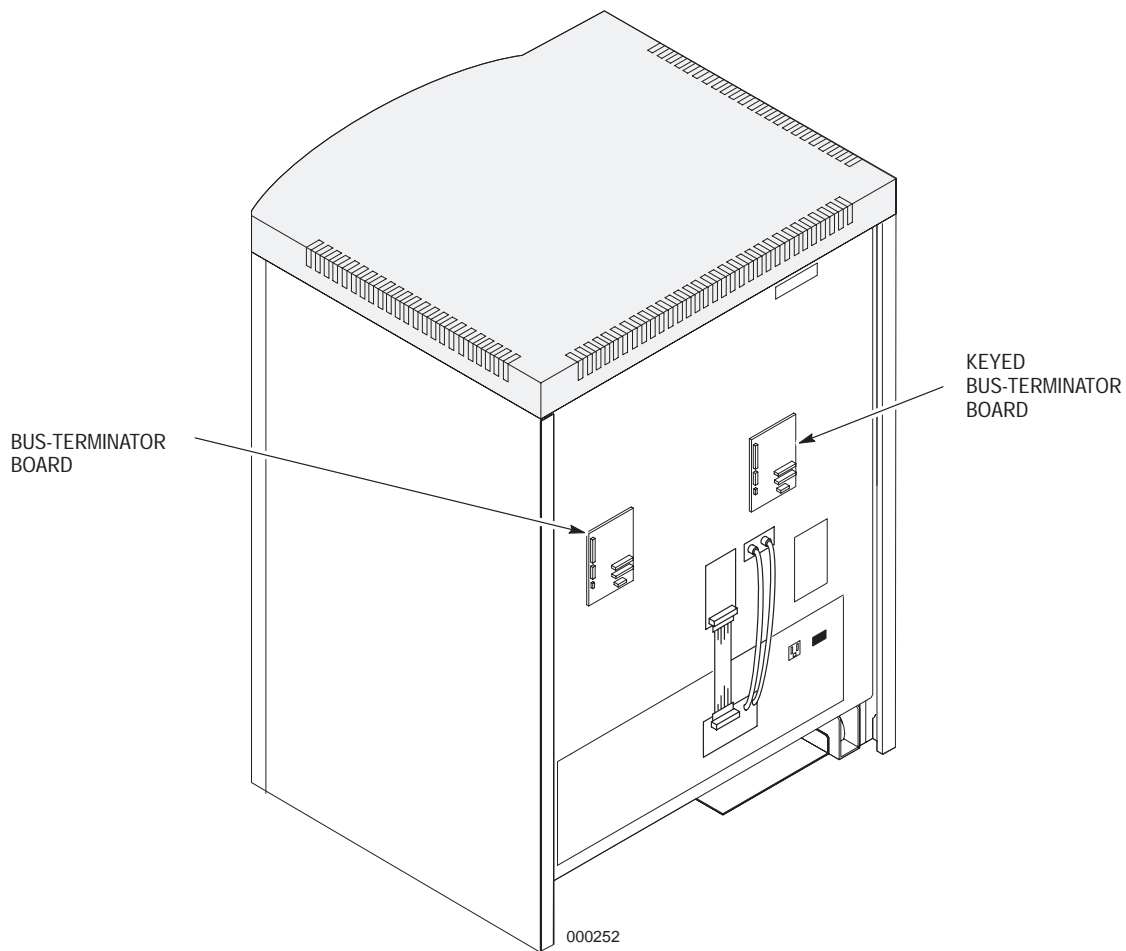

Figure 11-15. Bus-Terminator Boards (Rear View).
5. When the **ENTER BOOT COMMAND:** prompt appears, turn off the power to the server by switching the main-power circuit breaker on the back of the power-distribution tray to the OFF position (0).
8. Loosen the single, slotted, captive screw that secures the terminator board to the backplane. The locations of the terminator boards are shown in Figure 11-15.